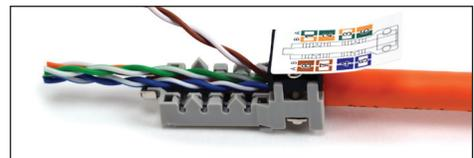

Figure 7
4.2 Attach cable clamp so the wiring diagram image matches the connector. (Figure 7)